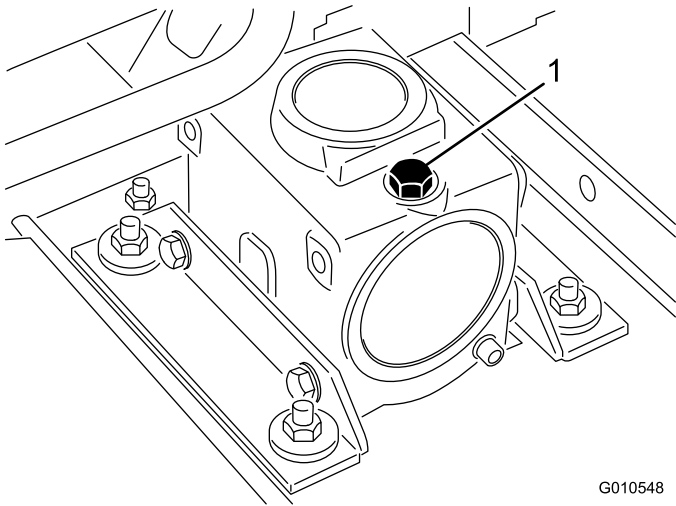

Figure 13
2. Remove the dipstick/fill plug from the top of the gear box (Figure 13) and make sure that the lubricant is between the marks on the dipstick. If the lubricant level is low, add enough lubricant until the level is between the marks.